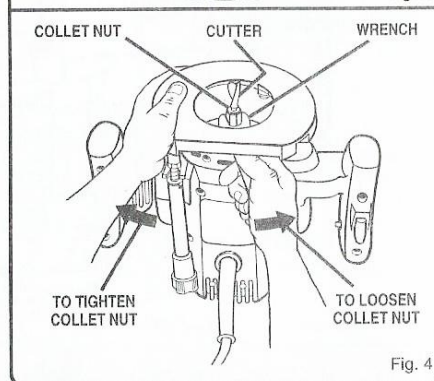

Fig. 4
- Place the wrench provided through back of router base onto collet nut and turn counterclockwise to loosen. See Figure 4.
- Tighten the collet nut securely by turning clockwise with the wrench provided. See Figure 4.